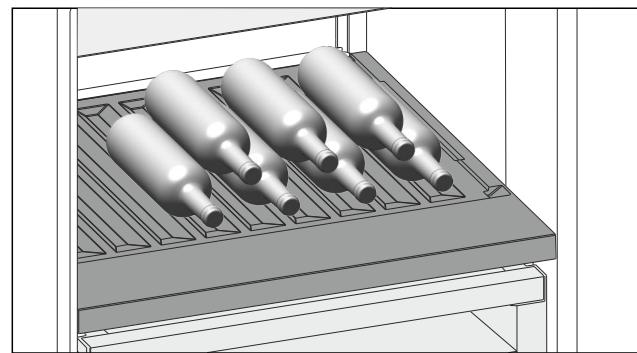

Fig. 98
- ▶ Place bottles in the back row with their bases against the back wall. (see Fig. 98)